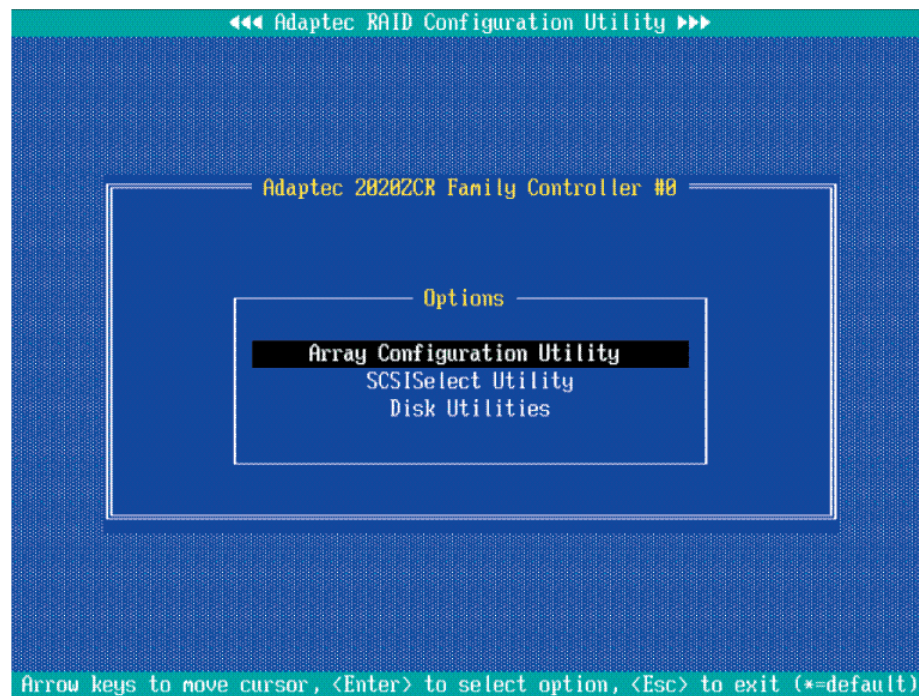
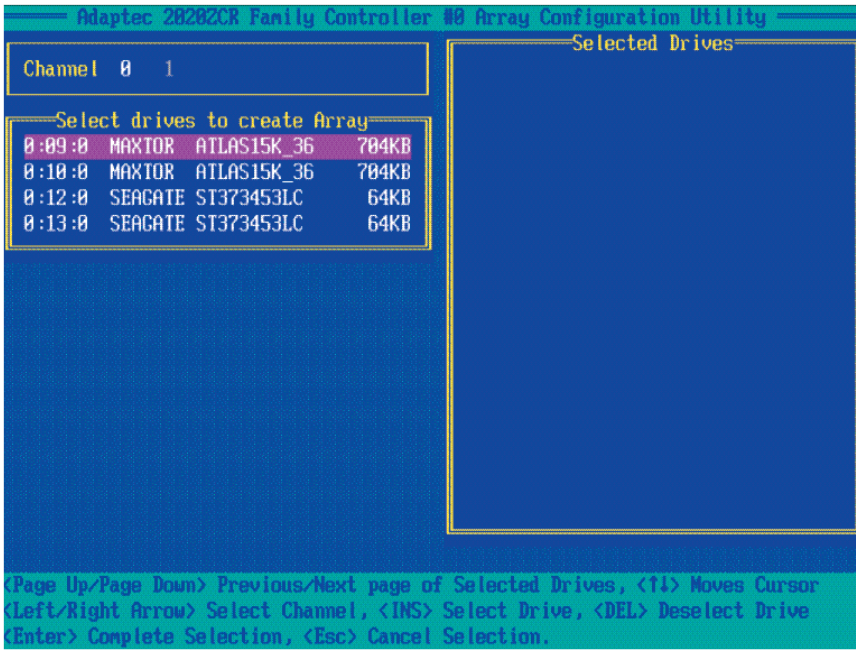

Figure 3.1 The RAID Configuration Utility Main Menu
Figure 3.2 The Array Configuration Utility Main Menu
1. Select "Array Configuration Utility" from the RAID Configuration Main Menu (Figure 3.1 on Page 3-3), and press <Enter>. The Array Configuration Main Menu will display as shown on the next page:
2. From the RAID Configuration Menu (Figure 3.1 on Page 3-3), select "Array Configuration Utility" and press <Enter>. The Array Configuration Utility Main Menu (Figure 3.2) will display.
2. From the RAID Configuration Menu (Figure 3.1 on Page 3-3), select "Array Configuration Utility" and press <Enter>. The Array Configuration Utility Main Menu displays as shown below.
2. From the RAID Configuration Menu (Figure 3.1 on Page 3-3), select "Array Configuration Utility" and press <Enter>. The Array Configuration Utility Main Menu (as shown above) will display.